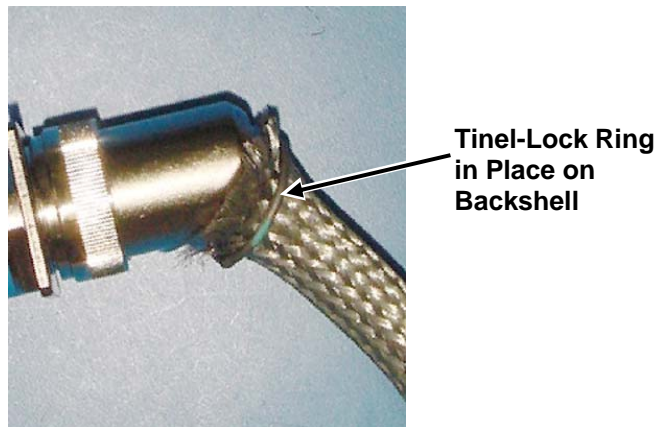

Figure 5. Tinel-Lock Ring on Backshell Prior to Heating
3. Slide the Tinel-Lock ring onto the center of the termination surface. See Figure 5.
- Ensure there is enough full braided weave past the Tinel-Lock ring. See Figure 5.